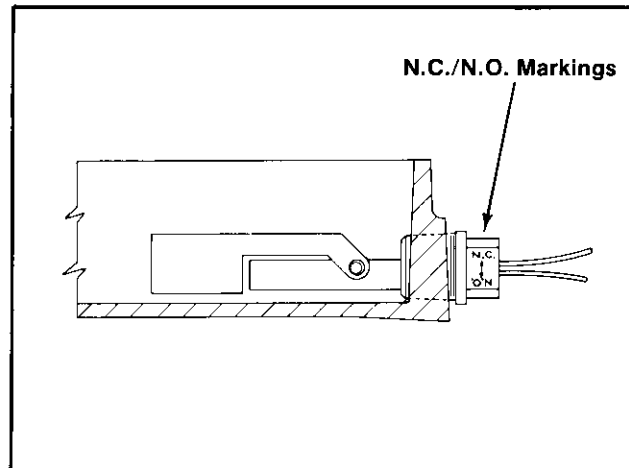

Figure 8-24. Float Switch Removal.
4. Using a 9/16" open end wrench, turn switch counterclockwise 1/4 TURN to loosen. STOP turning switch when flat surface on float switch is in a horizontal position. (Flat surface parallel with base of oil pan and N.C./N.O. markings down.) Refer to Figures 8-24 and 8-25.